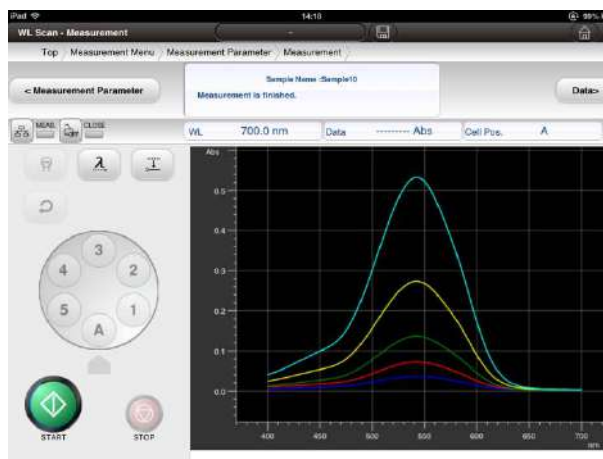

Fig. 4-82 Measurement Completion Window
- (6) When measurement of all set samples is completed, the window of Fig. 4-82 will be shown.